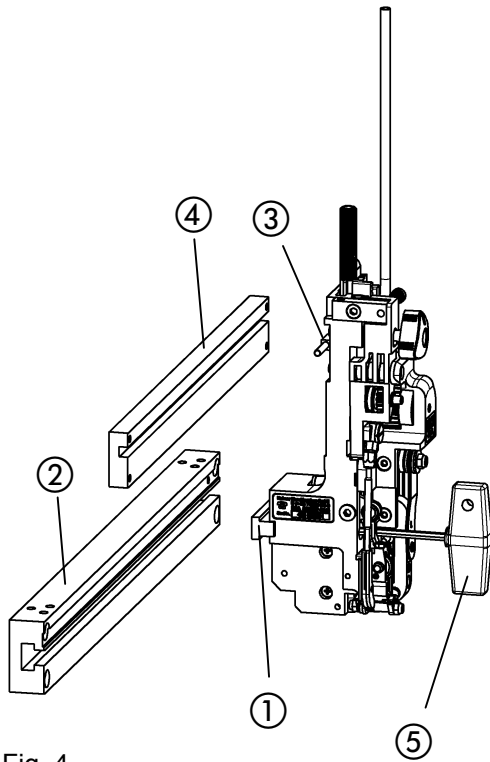
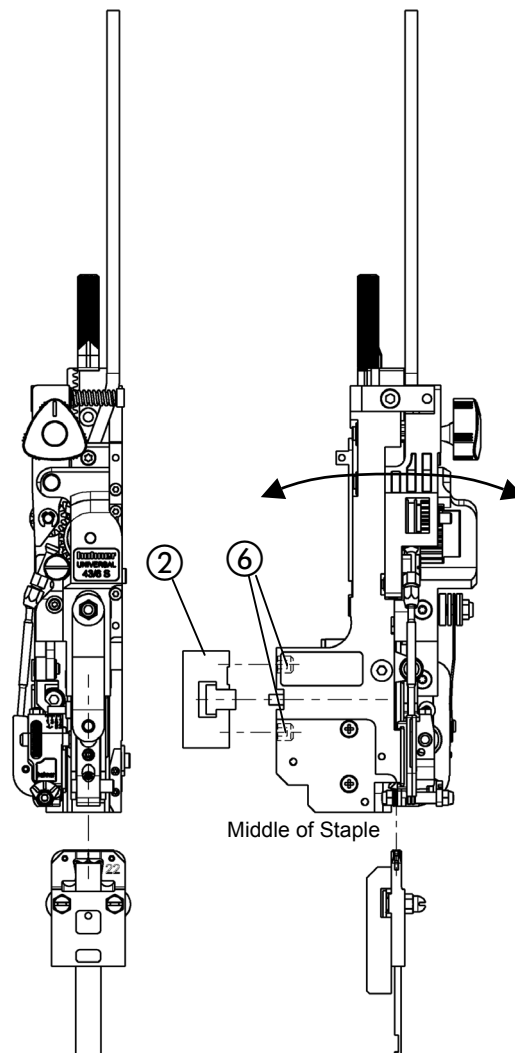

Fig. 4
Fig. 5
- Fig. 4 -
- Unscrew tenon block from the stitching head with Allan key SW4 ⑤.
- Introduce tenon block laterally into the stitching head mounting ②.
- Insert stitching head into stitching head mounting, so that the driver lug ③ can be inserted into the stroke bar ④ and the tenon block fits into the stitching head.
- Fix the stitching head by tightening the tenon block in the stitching head mounting using the Allan key ⑤.
- Fig. 4, Fig. 5 -
- Loosen the tenon block ① with the Allan key ⑤.
- Fix the tenon block in the stitching head mounting ② with the Allan key.
- Fig. 5 -